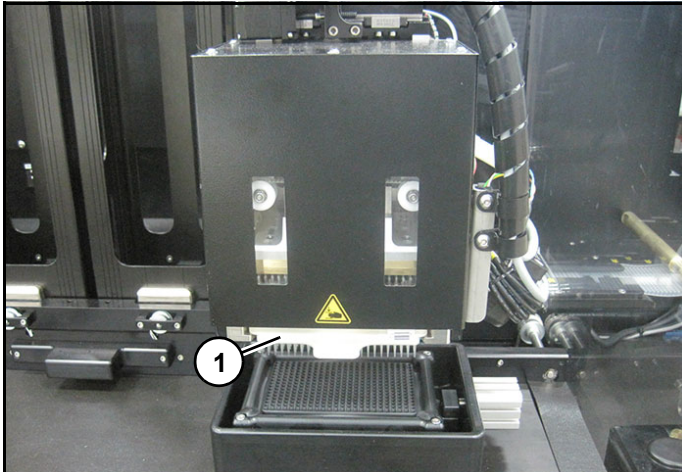

Figure 16
1. Ensure disposable tip tray (1) (Figure 16) is correctly inserted in clamp.